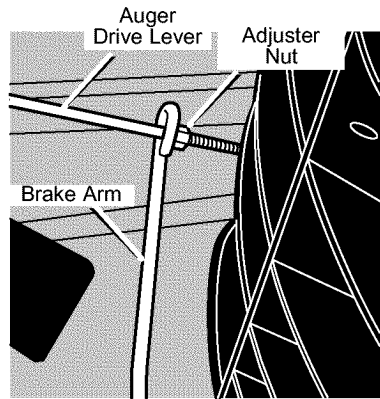
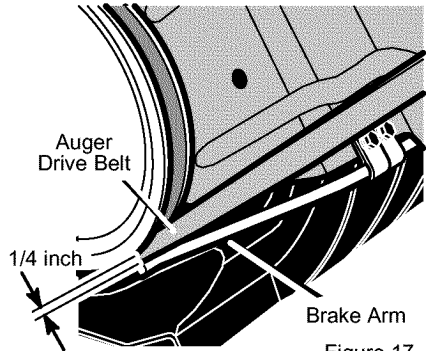

Figure 16
Figure 17
3. Turn the **adjuster nut** (See Figure 16) in or out until the **brake arm** is in contact with the **auger drive belt** (See Figure 17).
5. In correct adjustment, there will be **1/4 inch** clearance between the **brake arm** and the **auger drive belt** when the auger drive lever is engaged (See Figure 17).